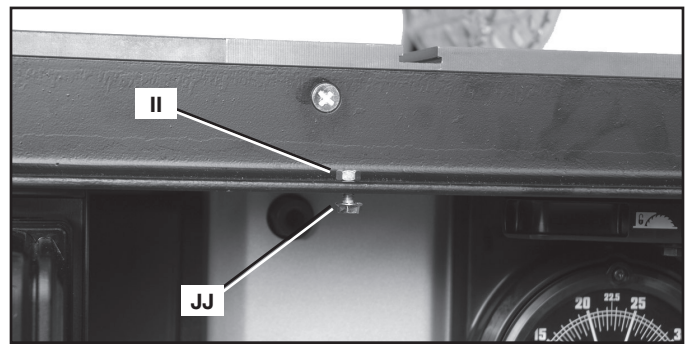
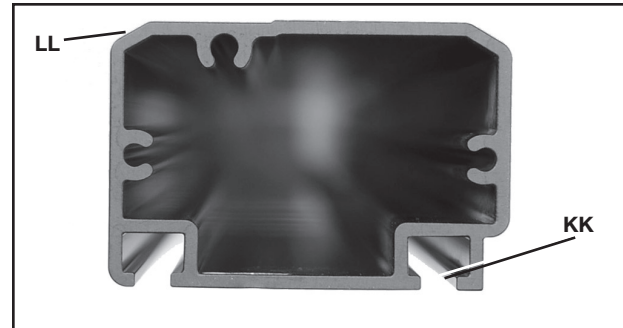
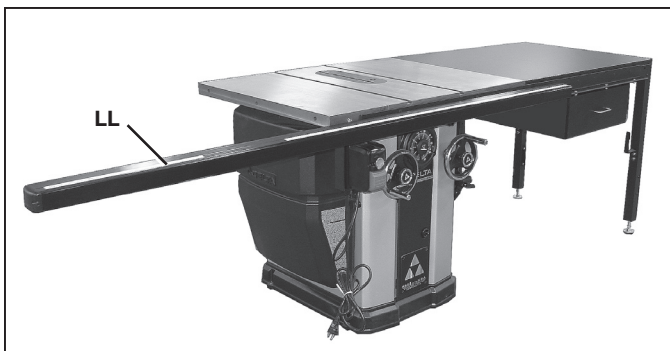
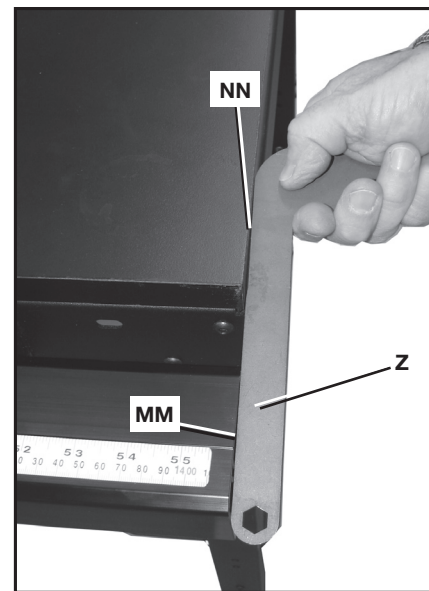

FIG. 15
FIG. 16B
FIG. 17
FIG. 18
1. Insert 1/4-20 x 5/8" (16 mm) hex head screw (II) down through a hole in front rail and thread on a 1/4-20 serrated flange nut (JJ) a few turns, as shown in Fig. 15.
4. Slide guide tube hole (KK) Fig. 16B onto first hex head screw at the left side (as shown in Fig. 17). Make sure ruler tape (LL) Fig. 16B or Fig. 17 is to the front of the saw before you start. Work your way down and slide guide tube around all hex head screws (II) Fig. 15 until metal edge (MM) Fig. 18 on right end of guide tube (NOT THE PLASTIC CAP) is flush with right end (NN) of extension table. Use the included template (Z) to be sure straight edge of guide is flush with wood part of table, as shown in Fig. 18
5. Fully tighten all flange nuts (JJ) Fig. 15, attaching guide tube to the rail.
NOTE: If the pointer can't be set to zero, loosen serrated nuts (JJ) Fig. 15 under the guide tube and adjust guide tube as needed. Re-tighten the nuts (JJ).